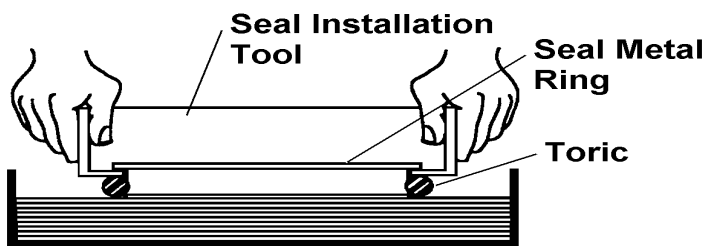

Figure 10
7. Use seal installation tool 075-007 to install one half of the Duo-Cone seal assembly into seal ramp on wheel. Wet the lower half of the toric in approved lubricant by dipping or brushing on with a clean foam brush or wiping on with a lint free cloth. See **Figure 10**.